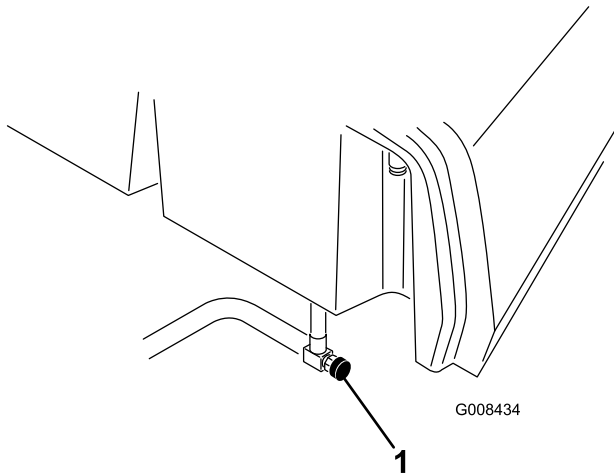

Figure 35
1. Close the fuel shutoff valve (Figure 35) below the fuel tank.